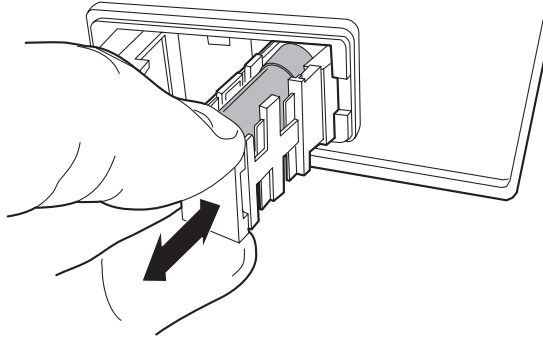

Figure 4-14 Removing the Fuse Holder
3. To change the AC power fuses, pull the red fuse holder as though opening a drawer. Spare fuses are included in the 600E Multisolvent Delivery System Startup Kit (Figure 4-14). For ordering information, see Appendix A, Spare Parts.